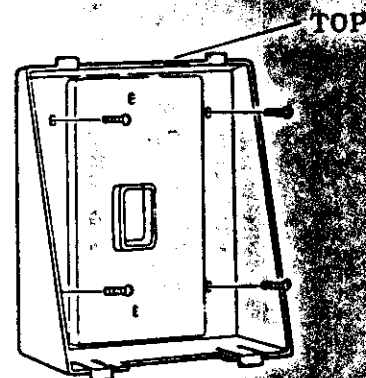

Fig. 20
| 3 | Install the wall bracket on the wall and fasten at four locations with M4.1x16S wood screws (Fig.20). |
- 4 Secure the wall bracket to the modular jack assembly and fasten at four locations with M4.1x16S wood screws (Fig.20).